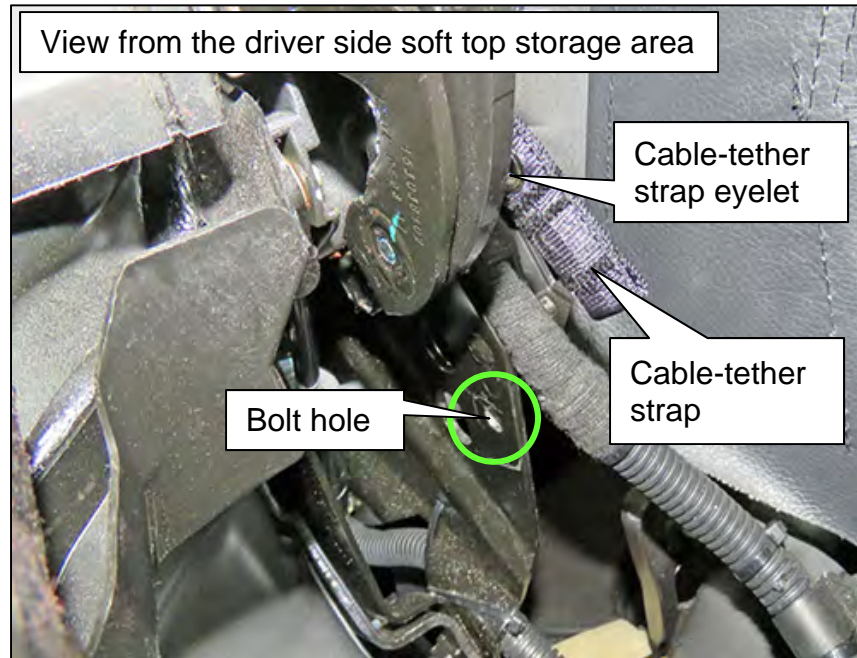
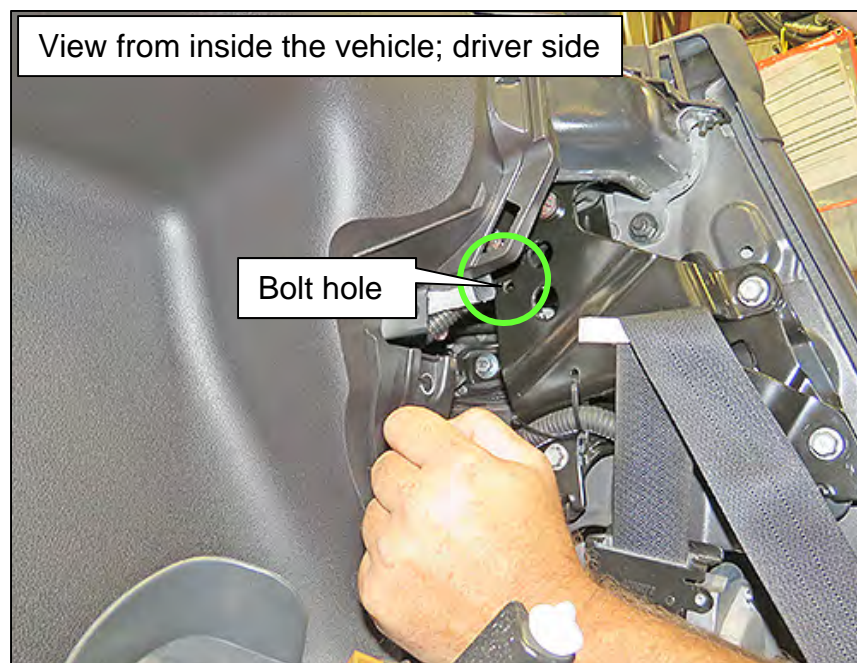

Figure 52
Figure 53
For steps 60-64 refer to Figure 52 and Figure 53 below.
- Figure 52 and Figure 53 show two views of the bolt hole that will be used to attach the cable-tether strap.
- Figure 52 is from the soft top storage area and Figure 53 is from inside the vehicle.
60. Insert bolt (BOLT-SPL) through the eyelet in the cable-tether strap, and then insert the bolt through the hole shown in Figure 52 and Figure 53 on page 24.